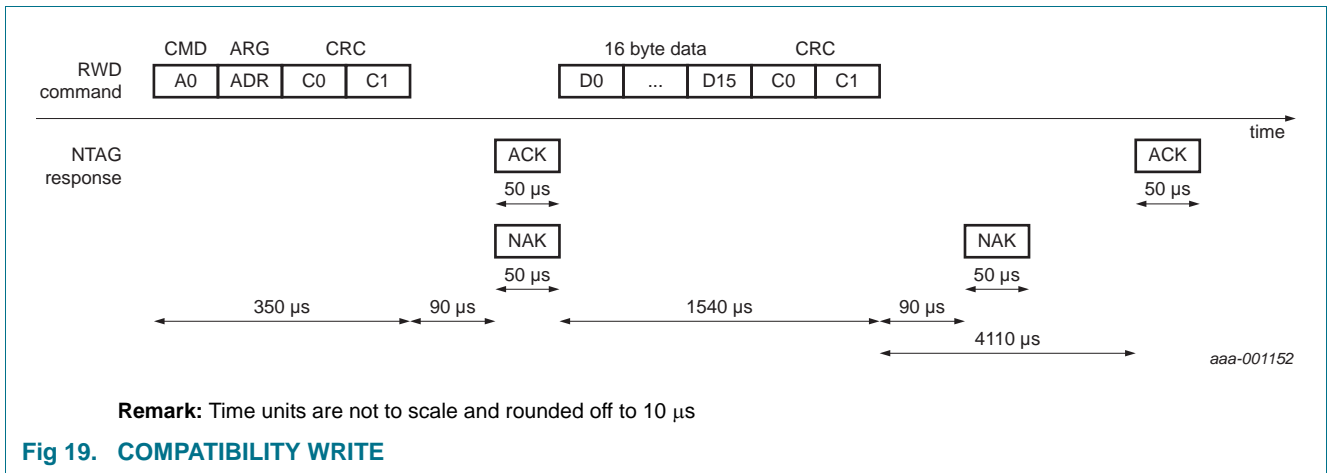

Fig 19. COMPATIBILITY WRITE
**REMARK:** The timings in Fig.19 are typical timings. The NFC forum device must respect the following minimum timings and maximum timeouts.